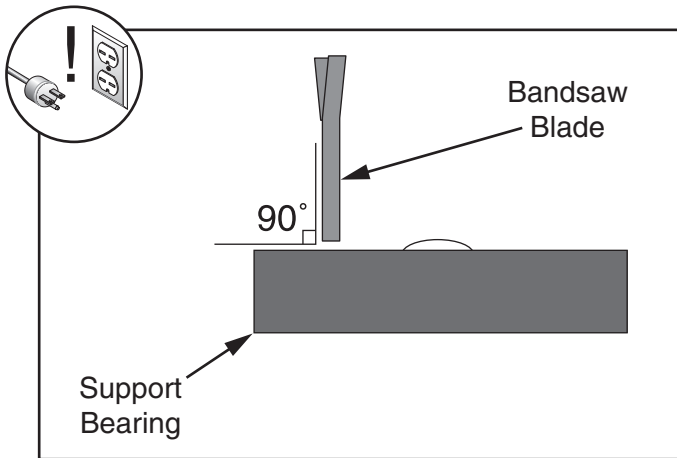

Figure 21. Blade should be perpendicular (90°) to the face of the support bearing.
4. Check that the blade is approximately 90° to the face of the support bearing as illustrated in **Figure 21** (it is not critical that it be precisely 90°—just make sure it is close.)
— If the support bearing is not 90° to the blade, loosen the two guide block assembly cap screws, rotate the blade guide assembly side-to-side, until the blade is 90° to the face of the support bearing as illustrated in **Figure 21**, then tighten the guide block assembly cap screws and re-adjust the blade guides.